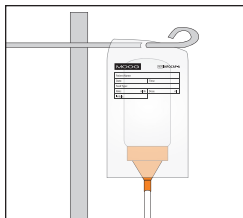

Figure 2-3 Fill Screw Cap Set
- ▶ **If you are using the Screw Cap delivery set:** Fill a feeding bottle/container with a 40 mm opening and secure it to the screw cap. Place the bottle/container into the suspension bag and secure the bag to an IV pole (Figure 2-3).